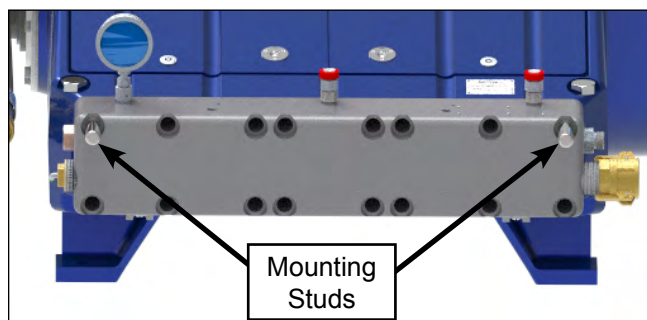

Figure 41: Lift New Manifold onto Mounting Studs.
18. Using a lifting device, lift the new manifold onto the manifold mounting studs. (Figure 41)